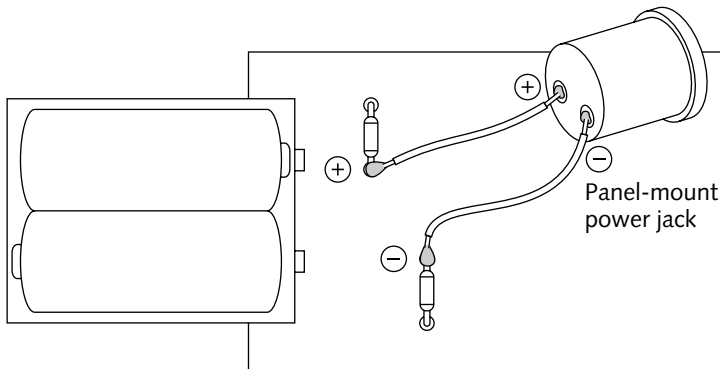

FIGURE 10-15: Noting polarity, solder extension wires to the power jack.
- 3.** Solder two power extension wires to the new power jack: positive wire to the lug that goes to the center, or "tip" connector, of the jack, and negative to the other lug (see Figure 10-15).